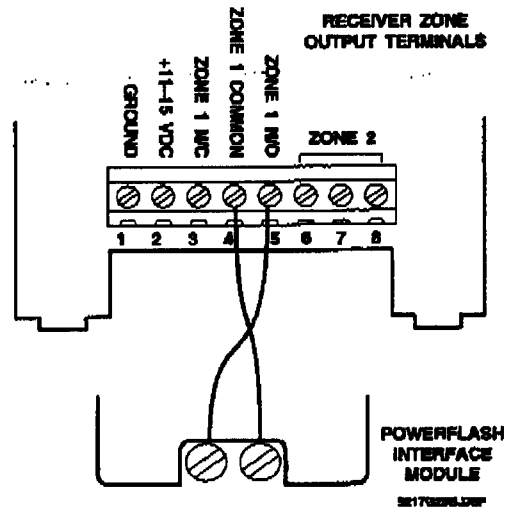

Figure 6. Wiring a receiver's zone output to the Powerflash Interface Module
- 4) Using Figure 6 as a guide, connect the Powerflash Interface Module to the appropriate receiver zone output.